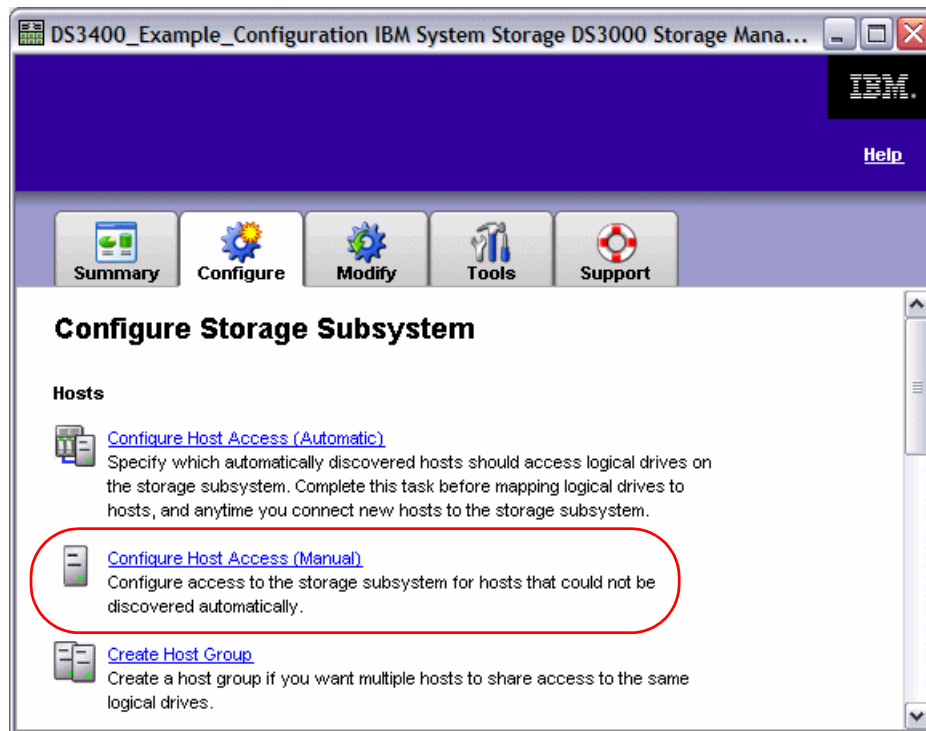

Figure 26-7 *Configure Host Access (Manual)*
1. In the DS3000 Storage Manager subsystem management window, select the **Configure** tab, and click **Configure Host Access (Manual)**, as shown in Figure 26-7.